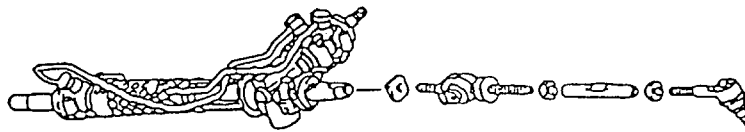

Figure 1
2. When installing 17 inch wheels on 911 Carrera 2/4, the steering stop washers, left and right, **must be replaced** with stop washers Part Number 964 347 325 02 (arrow in Figure 1). Refer to 911 Carrera 2/4 Workshop Manual Volume IV, page 48-3.
4. Summer tires Bridgestone Expedia S-01 N1 205/50 ZR 17 and 225/40 ZR 17. This make and type is the first Porsche approved tire that has a rotational direction with an asymmetrical hump. The tires for the left and right side are different. See Figures 1 and 2 on page 3 of this bulletin for the tire position identification.